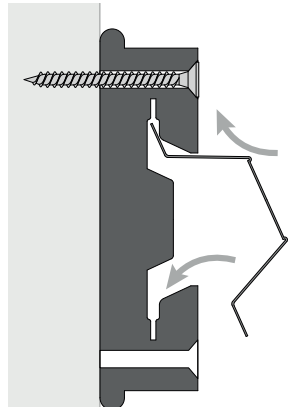

Figure 2
- ❑ Grip unsecured rubber end, snap in channel (figure 2).